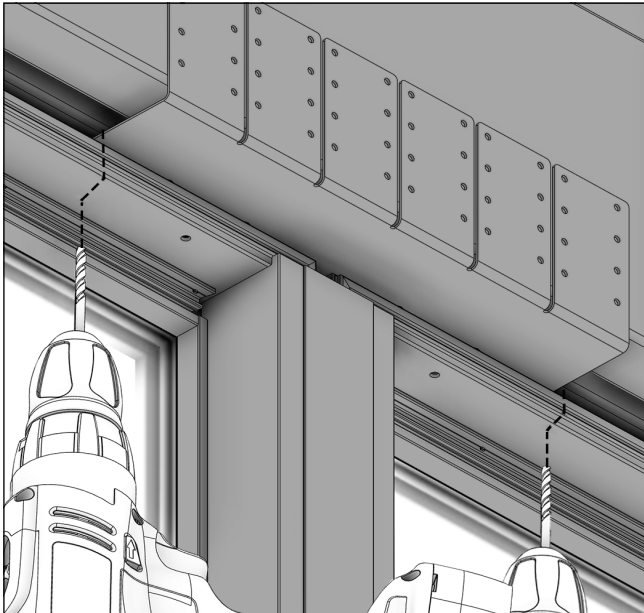

Figure 58 Direct Glaze
4. For Direct Glaze product, measure 1/2" off the interior face of the frame. All holes regardless of unit type will align with the existing through jamb holes. Drill the marked locations, drill through the frame with a 3/16" drill bit. Once all holes are drilled, fasten the frame to the RO with the provided #8 x 3" screws using a T20 star bit. Additional shimming may be required. DO NOT OVERTIGHTEN. See Figure 58